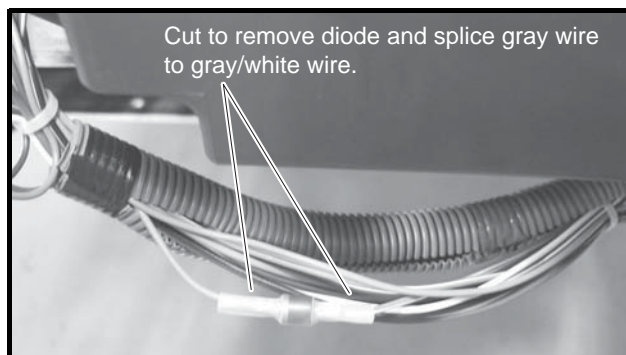

Figure 13-11 Remove Diode
2. Remove the diode from the gray/white and gray wires as indicated (**Figure 13-11, Page 13-16**).